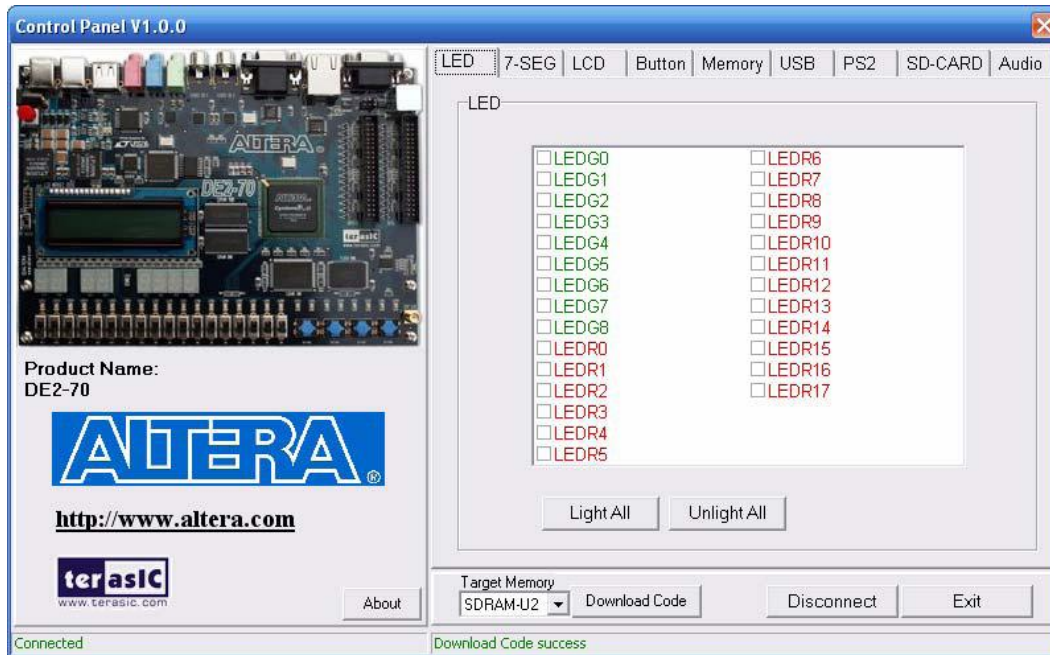

Fig. 3. The DE2-70 Control Panel.
The Control Panel Software Utility is located in the “*DE2\_70\_control\_panel/SW*” folder in the **DE2-70 System CD-ROM**. To install it, just copy the whole folder to your host computer. Launch the control panel by executing the “*DE2\_70\_Control\_Panel.exe*”. After the execution you will see the Control Panel in your PC (See Fig. 3).
4. Start the executable *DE2\_70\_control\_panel.exe* on the host computer. The Control Panel user interface shown in Fig. 3 will appear.
- A simple function of the Control Panel is to allow setting the values displayed on LEDs, 7-segment displays, and the LCD character display. Choosing the **LED** tab leads to the window in Fig. 3. Here, you can directly turn the individual LEDs on or off by selecting them or click “Light All” or “Unlight All”.
- Choosing the **7-SEG** tab leads to the window in Fig. 3. In the tab sheet, directly use the **Up-Down** control and **Dot** Check box to specified desired patterns, the 7-SEG patterns on the board will be updated immediately.
- Choosing the **LCD** tab leads to the window in Fig. 3. Text can be written to the LCD display by typing it in the LCD box and pressing the **Set** button.
Choosing the **Button** tab leads to the window in Fig. 3. The function is designed to monitor the status of switches and buttons in real time and show the status in a graphical user interface. It can be used to verify the functionality of the switches and buttons.
2. Create a Verilog module named *part3* for the code in Fig. 3 and include it in your project. Make sure to complete the code by adding the assignment statements for the lights.